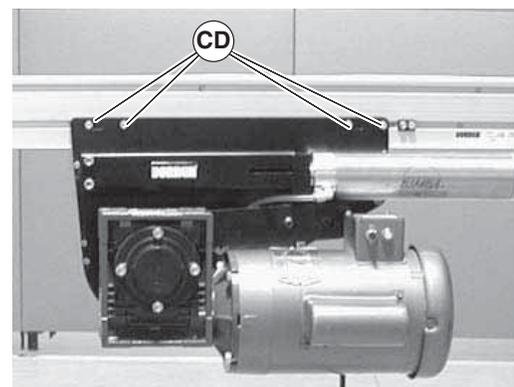

Figure 51
2. If necessary, adjust the tracking cam: loosen the center drive fastening screws (Figure 51, item CD) on the side of center drive to be tracked.
- Tighten the center drive fastening screws (Figure 51, item CD) to 146 in-lbs (16.5 N-m).